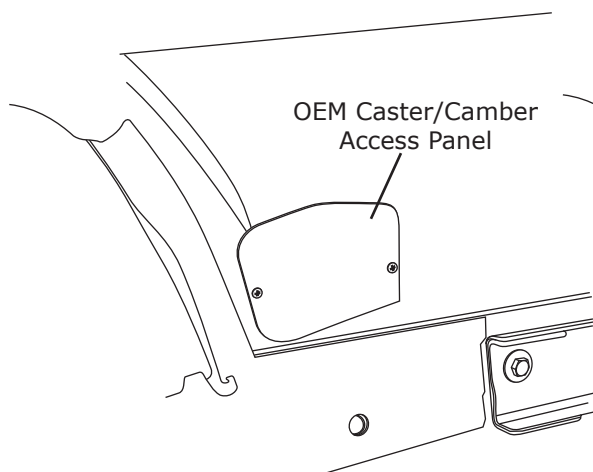

Figure 10
1. Remove OEM caster/camber access panel (discard) (See Figure 10, below).